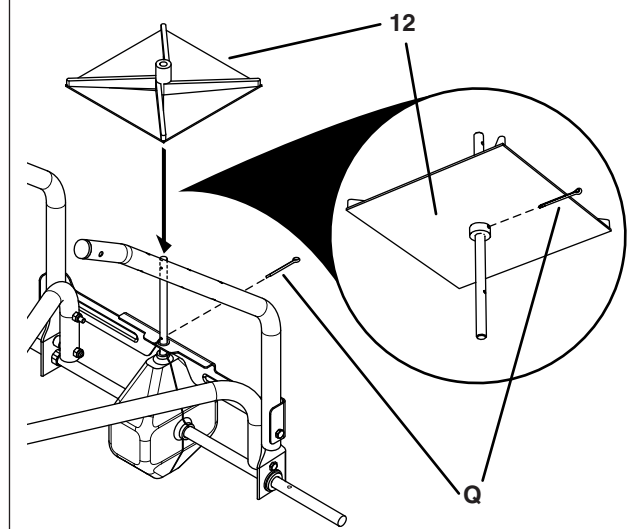

Figure 6
STEP 6: (SEE FIGURE 6)
- Slide the spreader impeller (11) onto the spreader shaft and secure it with a 1/8" x 1-1/2" cotter pin (Q) by spreading the ends of the pin